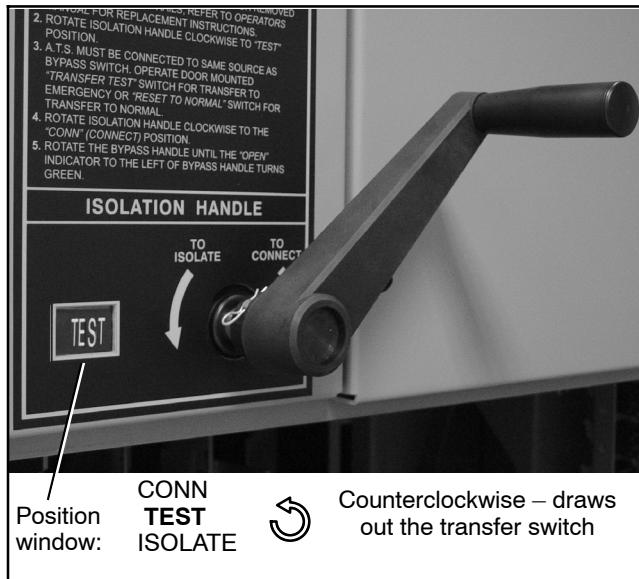
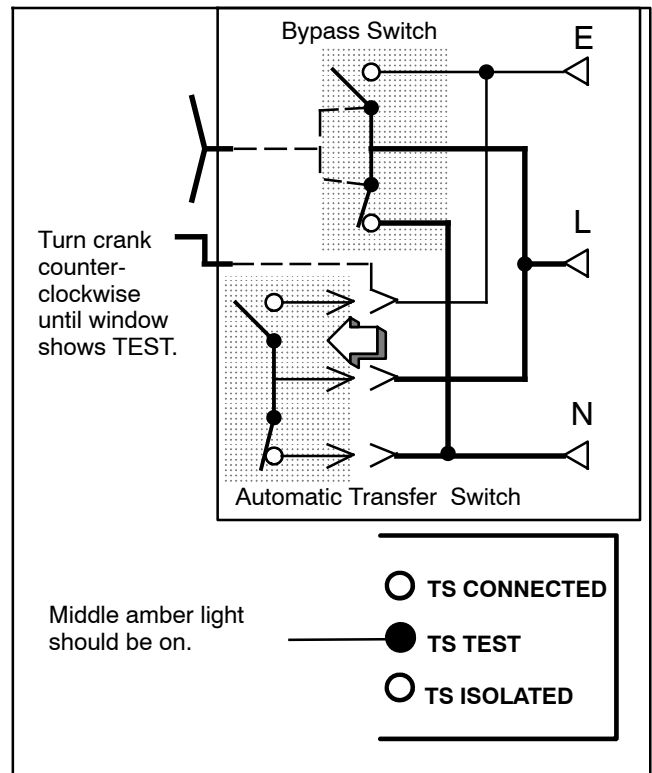

Figure 7-39 Isolation Handle Turned to TEST
Figure 7-40 CONNECTED to TEST position
Isolate the transfer switch before performing any service work on the automatic transfer switch (ATS). Refer to Figure 7-39 through Figure 7-42.
2. Turn the Isolation Handle counterclockwise (approx. 8 turns) until window shows **TEST**. See Figure 7-39. The *TS Test* amber light should come on (Figure 7-40). The ATS can be tested now without load interruption.